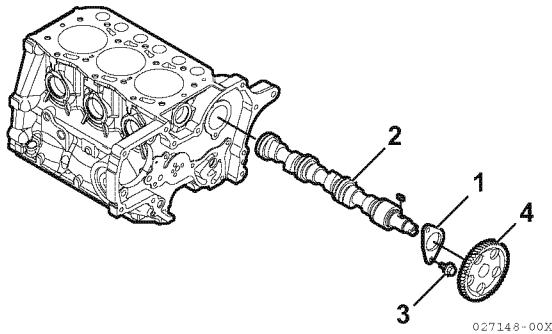

Figure 6-96
1. If removed, install the camshaft end plate (**Figure 6-96, (1)**), key and camshaft gear (**Figure 6-96, (4)**) onto the camshaft using a press.
2. Lubricate the camshaft (**Figure 6-96, (2)**) with clean engine oil or assembly lube. Slowly insert the camshaft through the front of the engine.
3. Install and tighten the capscrews (**Figure 6-96, (3)**).